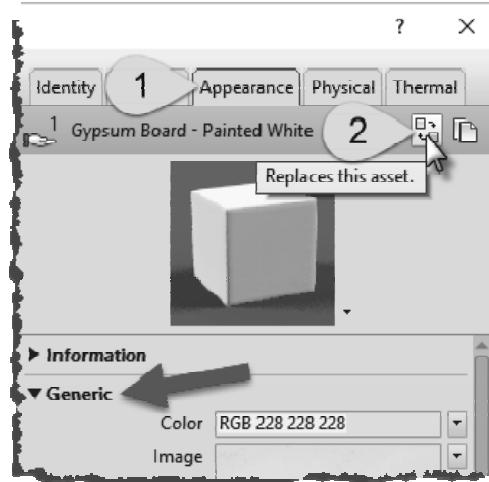

FIGURE 4-3.14 Replace asset icon
Next you will need to replace the *Appearance* asset with one specifically meant for paint. Currently it is set to *Generic* and not *Wall Paint* as pointed out in Figure 4-3.14.
42. Click the **Replace this asset** icon (Figure 4-3.14).